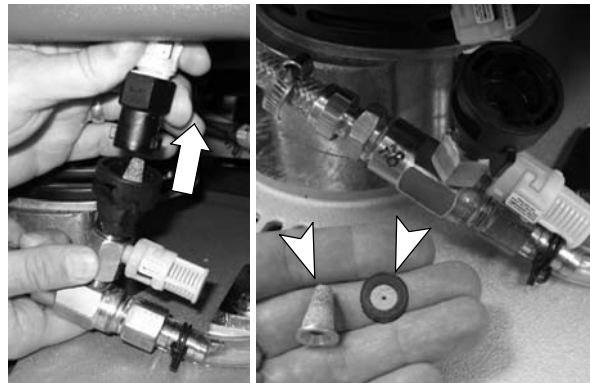

FIG. 51
2. Unthread the black plastic filter housing and clean or replace the orifice plate and filter (Figure 51).